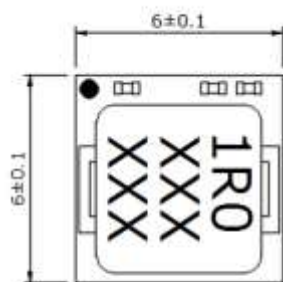

**FIG.48 Recommendation Layout (Bottom)**
3. Keep the R3 connection trace to the module pin 16 (FB) short.
6. The input decoupling capacitor must be close to module VIN pad and GND pad shown as figure 48. The C6 decoupling capacitor use to 100nF